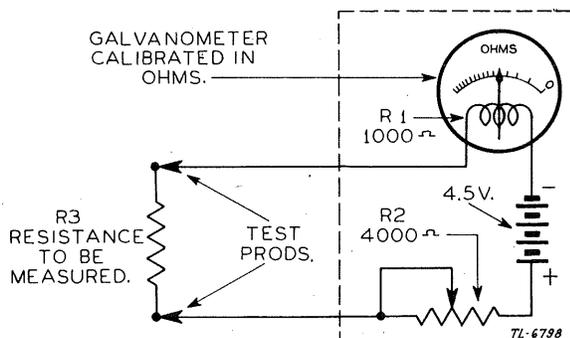

Figure 5. The galvanometer as an ohmmeter.
c. The Output Meter. (1) This instrument is an a-c voltmeter, usually calibrated in volts. When used as an output meter it indicates comparative voltage readings. An application of this would be in the alignment procedure of a radio set, where it is merely used to indicate a maximum swing of the needle for a given condition, such as resonance in a tuned circuit through which a signal is passing.
(2) A series capacitor self-contained in the instrument is supplied for taking output readings directly from the plate circuit of any vacuum tube. The capacitor isolates the instrument so that d-c potential will not cause damage. When taking a-c readings, never use the series capacitor if actual voltages are to be measured, as the impedance of the capacitor will vary with frequency and therefore will materially upset the calibration of the instrument. Where comparisons are made in output, the capacitor may be used provided the variations in audio frequency are not a factor.
a. General. (1) The galvanometer may be used to measure resistance if it is connected as shown in figure 5. It has been shown that if a galvanometer is placed across a source of voltage, the amount of current flowing through the meter depends upon the resistance of the meter circuit. In the case of the voltmeter, the resistance was fixed so that the voltage could be measured. In the case of the ohmmeter, the voltage is fixed so that
(2) Suppose the same galvanometer that was used as a voltmeter is to be used as an ohmmeter. The meter-coil resistance R_1 will then be 1,000 ohms, and a current of 1 milliampere flowing through the coil will cause full-scale deflection. If the battery used with the ohmmeter has a terminal voltage of 4.5 volts as in figure 5, the resistance in the meter circuit for a current flow of 1 milliampere must be 4,500 ohms. If 1,000 ohms of the resistance is in the coil of the meter, 3,500 ohms must be added to the circuit. This is accomplished by R_2 , a variable resistor with a maximum resistance of 4,000 ohms. R_2 is then adjusted to a value of 3,500 ohms. But R_3 , the resistance to be measured, is also in the circuit. If R_3 is shorted out and R_2 is adjusted to exactly 3,500 ohms, the meter will indicate full-scale deflection. This corresponds to a reading of zero ohms since the value of R_3 when it is shorted out is zero ohms. Full-scale deflection on the scale may then be calibrated as zero ohms. If the short across R_3 is removed, resistance will be added to the meter circuit and cause less current to flow through the meter. This means that there will be less deflection of the needle on the calibrated scale. If R_3 has a value of 4,500 ohms, the total resistance in the meter circuit will be 9,000 ohms, exactly twice the previous value for full-scale or zero-ohms deflection. Therefore the current will be one half of what it was before, and the meter will read half scale. The half-scale mark on the meter will then correspond to 4,500 ohms and may be calibrated as such. Various values of R_3 will then cause various deflections on the meter scale which, if calibrated in ohms, will indicate the value of the resistance under test.